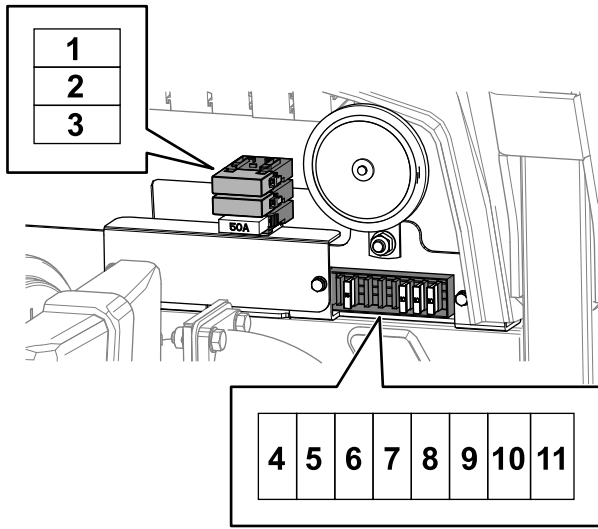

Figure 72
5. Replace any open fuse with a fuse of equal amperage capacity (Figure 72).